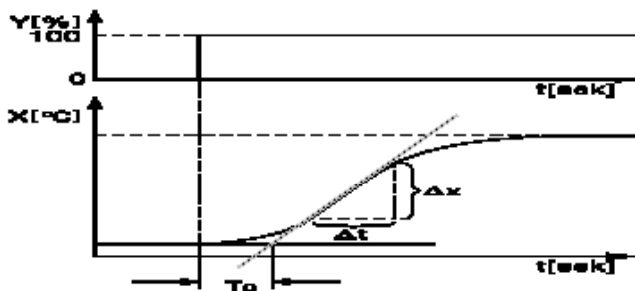

Fig.11. Characteristic of the inertial object after switching the Y control signal on.
- dEn means, that PID parameters will be calculated on the base of the inert object (fig 11),